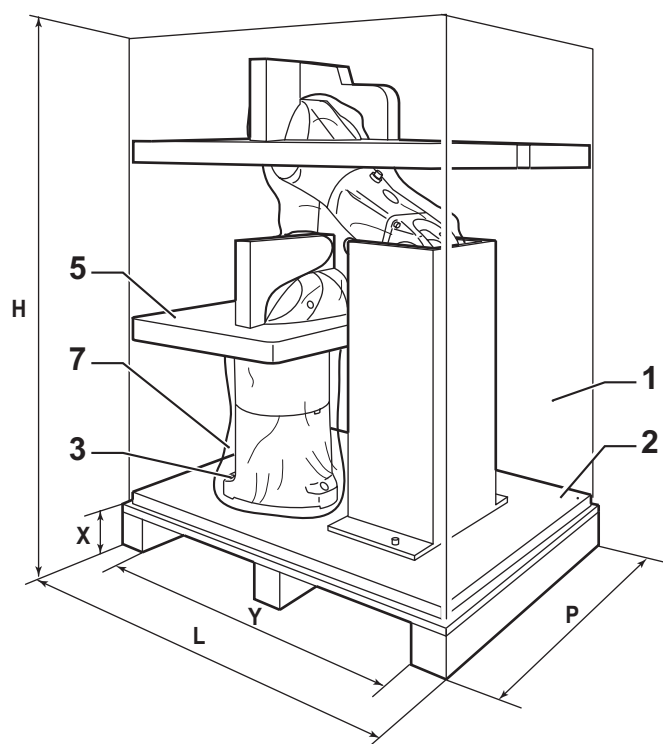

Figure 3.1
3.1. ARM PACKAGING (figure 3.1)
- Move the packing case as near as possible to the installation site (figure 3.1).
- Remove the cardboard packaging (1), remove the packing material (5) and the plastic cover (7) (figure 3.1).